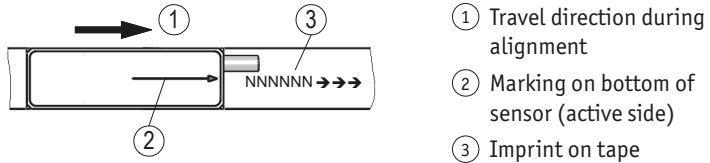
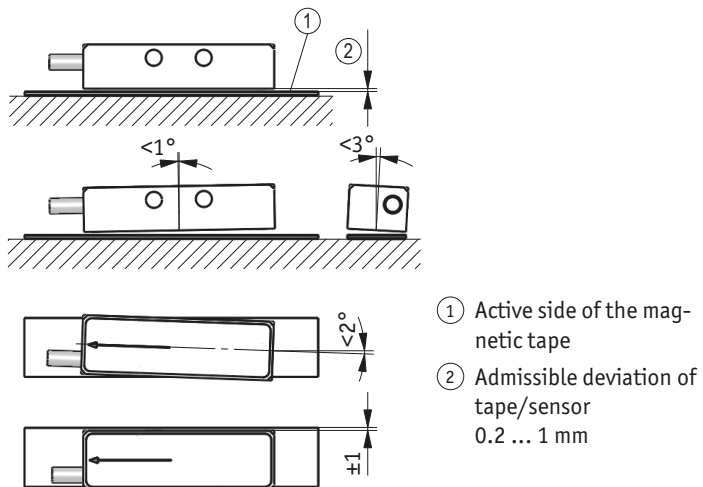

Fig. 6: Sensor alignment / orientation
Fig. 7: Assemblage sensor / magnetic tape, gap measure, tolerances
► Take care that the magnetic sensor is aligned correctly in order to ensure optimum sensing (see Fig. 6, Fig. 7).
2. The direction of the arrow of the sensor imprint must tally with the direction of the arrow of the tape imprint for alignment (Fig. 6).
The position of the sensor regarding the magnetic tape is exactly defined. When mounting, special care shall be taken to maintain an air gap between tape and sensor over the whole measurement distance whether the tape or sensor is moved or not (see Fig. 7). As a mounting aid you may use the enclosed spacing template.
- The distance tolerances were not observed over the whole measuring length or the sensor scrapes the magnetic tape (see Fig. 7).
- The magnetic sensor has been mounted with the active side turned away from the tape (see Fig. 6, Fig. 7).
- Magnetic sensor has not been aligned according to Fig. 6, Fig. 7.